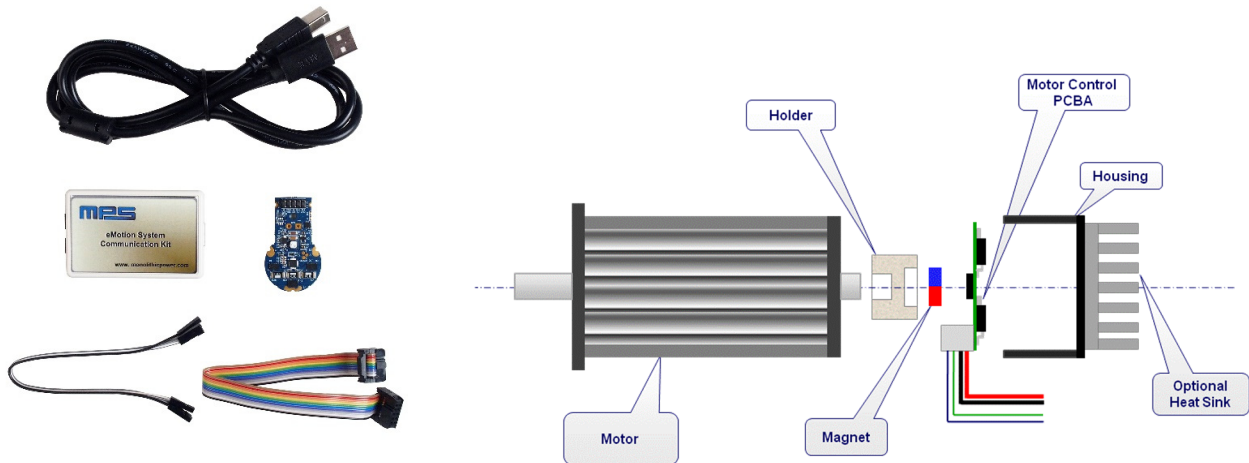

Figure 6: EVKT-MP6570 Evaluation Kit Set-up
1. Install the evaluation board at the back of the motor by connecting the three-phase motor windings to the board. Note that the center of the board should be aligned with the center of the magnet attached to the motor shaft. The distance between the magnet surface and the MP6570 surface should be between 1mm and 2mm (see Figure 6).